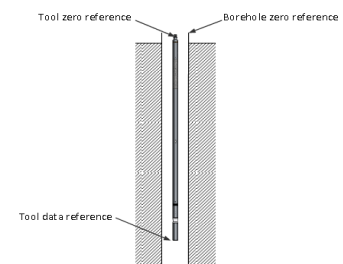

Figure 4-2 Correct tool positioning when zeroing depth
4. Click the extend icon  in the **Depth** panel and press **Zero Tool** (**Figure 4-2**).